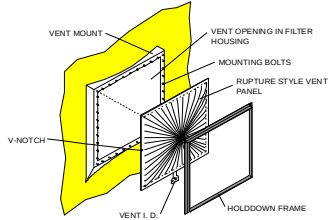

Figure 4-6 Typical Rupture Style Explosion Vent
The installation of the rupture panel style vent should be performed by two people. Refer to Figure 4-6 below.
3. Place the vent panel over the protruding bolts in the housing wall. The vent panel must be oriented correctly. The panel ruptures on three sides and hinges on the fourth. The hinge side is indicated by a v-notch in the edge. Place the panel with the v-notch to the left and the I.D. tag at the bottom as shown in Figure 4-6. The dome must protrude outward as shown or the panel will not function.